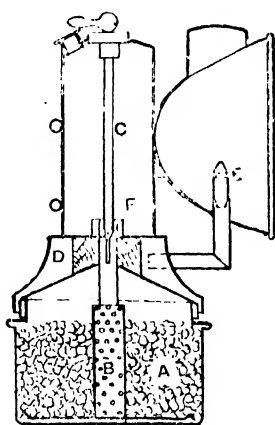

Fig. 1. — Section of Acetylene Lamp in which Water Drops on Carbide.
are either self-contained, the generator and burner being combined in the one apparatus, or the generator is separate from the lamp, being clipped on the frame and connected to the burner on the lamp bracket by a rubber tube. The majority are self-contained. The contact between the water and the carbide is brought about in three ways: (1) water is allowed to fall drop by drop on to the carbide; (2) the water rises from below to the carbide; and (3) the water is syphoned on to the carbide by means of a wick or some such capillary material. The first class is the one most used, and Fig. 1 represents the general principle. The carbide